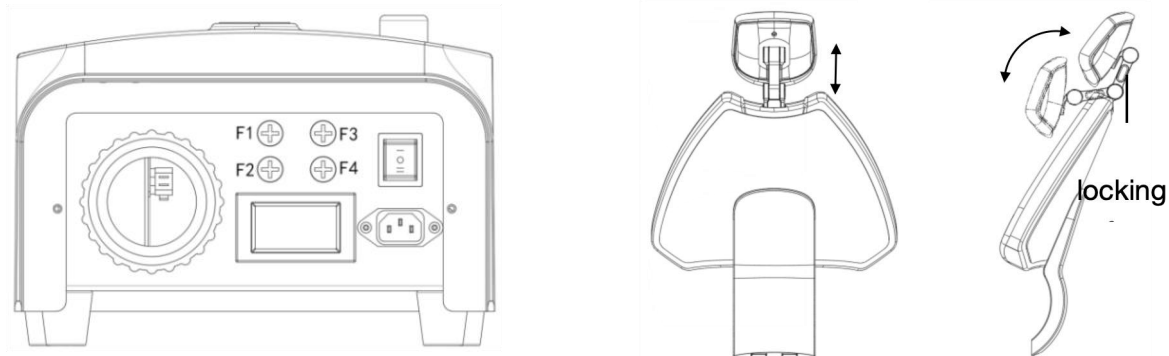

Figure 9 Ground
6.1.2 Ground box fuse (Figure 9)